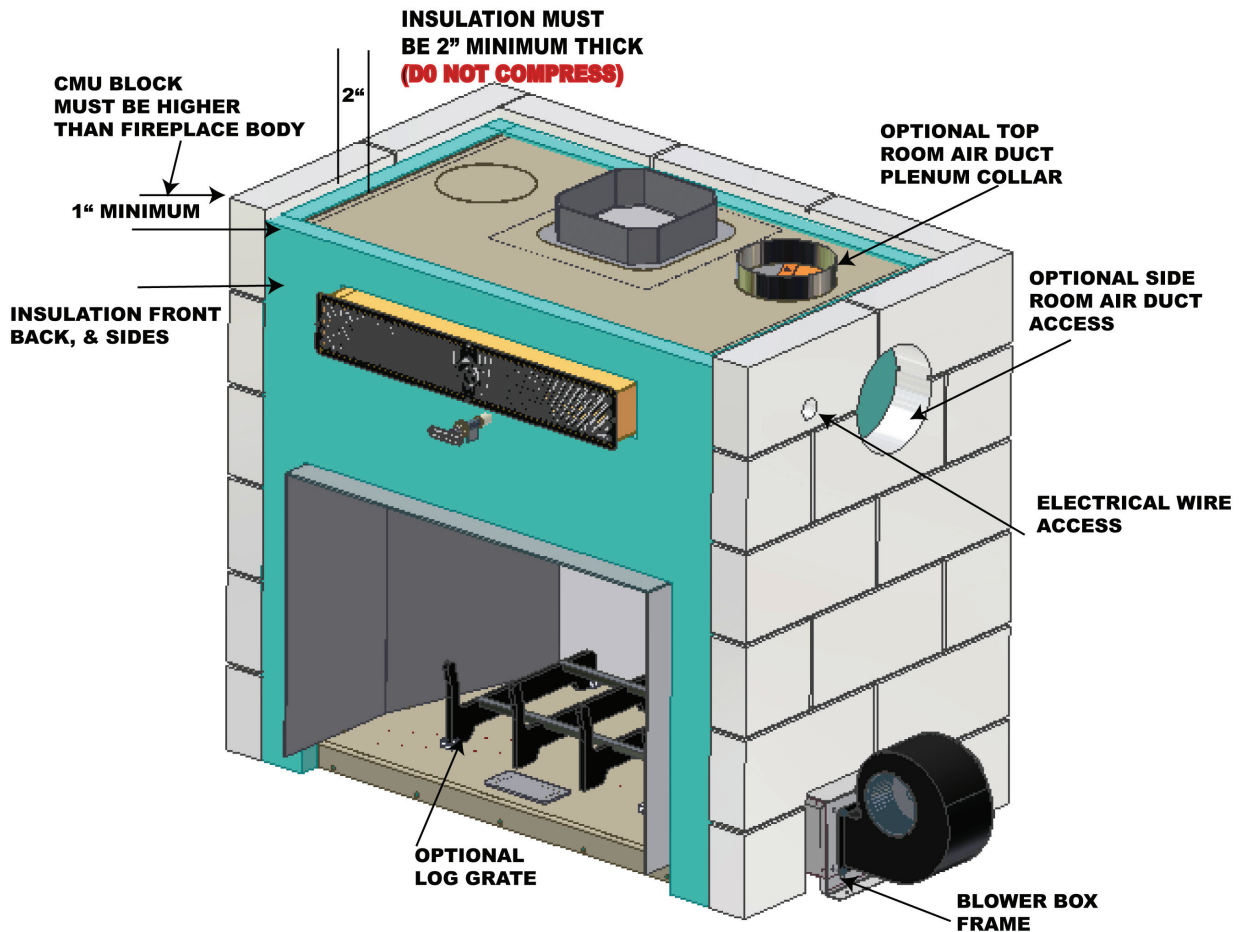

FIGURE 5: MASONRY WALL INSTALLATION
Fireplace wall construction is critical to the long term success of the fireplace for several reasons. The non-combustible brick, concrete, and masonry walls protect the combustible material that is ultimately used as the core home construction material from the intense fireplace heat. These same non-combustible walls must support the weight of the chimney system. Finally, the aesthetics of the masonry work will define the warmth and comfort of all who view the fireplace furnace for years to come. Refer to FIGURE 5 and the following steps as a guide to installing fireplace walls. Again, local codes and a chimney construction expert should be involved in the design and construction of the fireplace.
3. The left and right side CMU block walls must frame the Smart fireplace furnace blower boxes. Frame the blower boxes with CMU block as shown in FIGURE 5.
7. FIGURE 5 shows the insulation installed on the Smart Fireplace exterior sides, front and back. Insulation also must cover the top of the Smart Fireplace once the chimney is installed. Compressing insulation reduces its effectiveness. Ensure proper clearance.
11. NOTE: Country Flame's optional log grate is shown in FIGURE 5.
FACTORY-BUILT INSULATED CHIMNEY INSTALLATION – The Smart Fireplace Furnace models 33 and 37 can be installed with a Class A ten inch (10") diameter U.L. 103 HT listed factory built chimney. The Smart Fireplace Furnace model 42 can be installed with a Class A twelve inch (12") diameter U.L. HT listed factory built chimney. In order to use factory-built insulated chimney with a Smart Fireplace Furnace, refer to FIGURE 5 and follow the **FIREPLACE WALL CONSTRUCTION** steps 1 through 8 listed above and then follow steps 12 through 16: